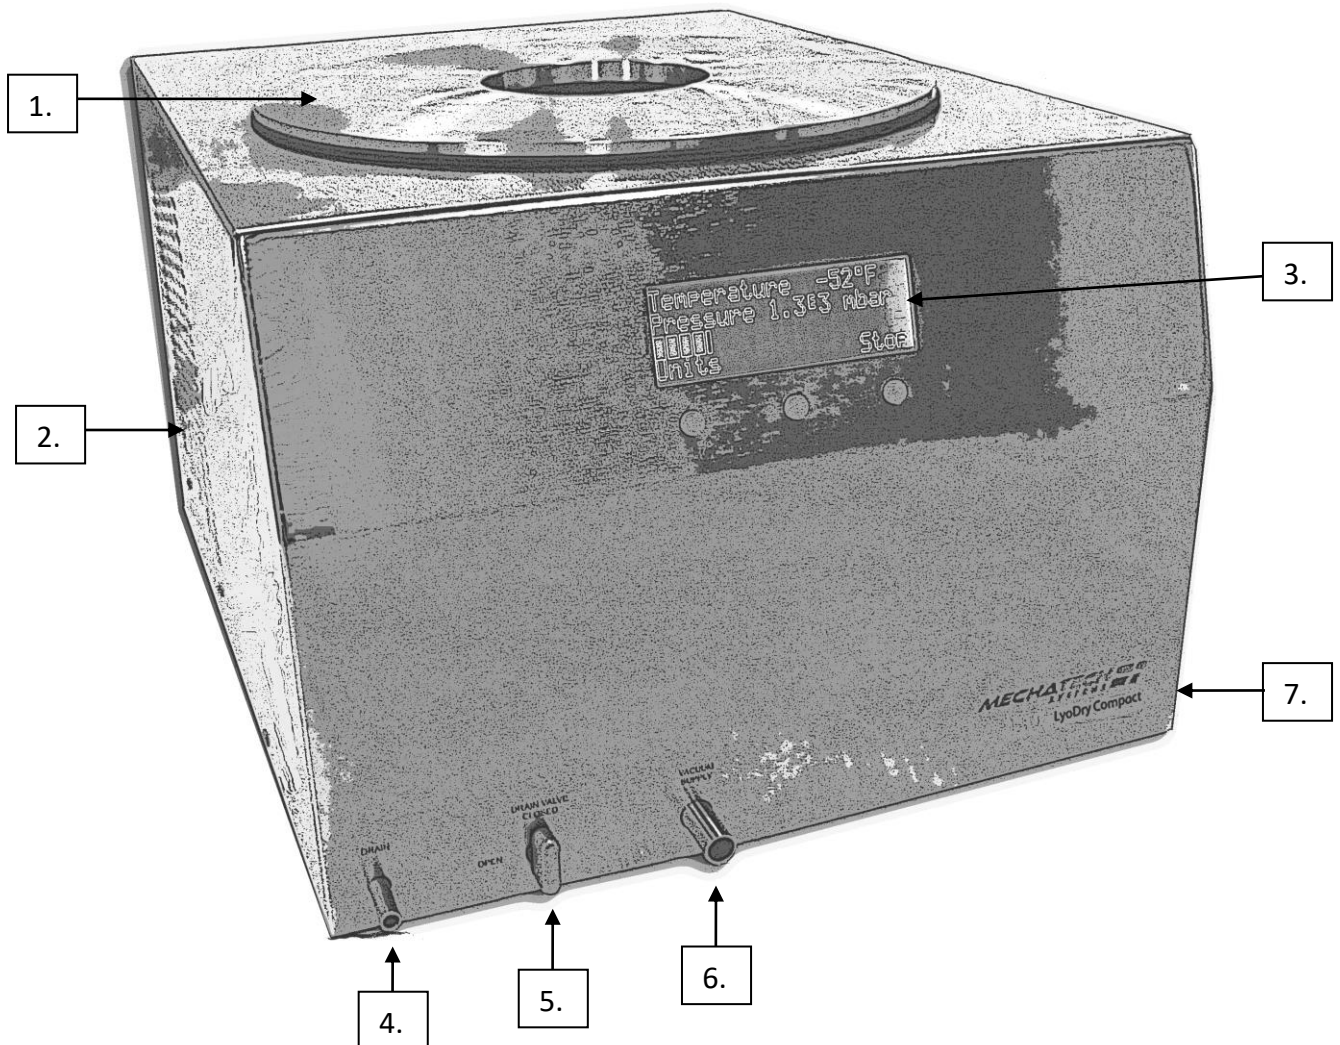

Figure 1 – LyoDry Compact.
2. Press the On/Off switch found on the right hand panel in the front corner (item 7, figure 1)
3. The display (item 3, Figure 1) on the front panel should be illuminated.
8. Attach an empty drying accessory to the accessory flange (item1, Figure 1).
The LyoDry Compact has a condenser chamber, a refrigeration system and a control system which includes temperature and pressure indication and user controls. The refrigerant used in the LyoDry Compact is CFC free. All of the LyoDry Compact components are all housed in a stainless steel cabinet which is designed for bench-top use. The components are described in the following sections (see figure 1 for the locations of components).